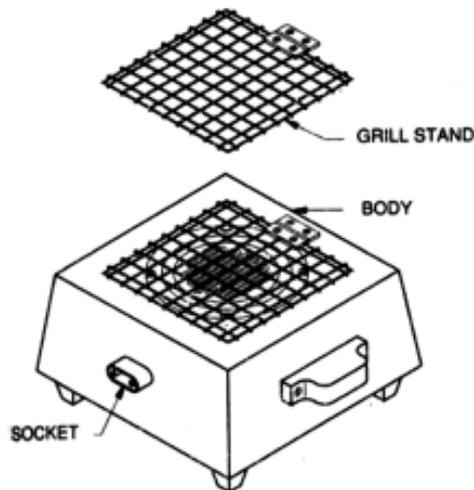
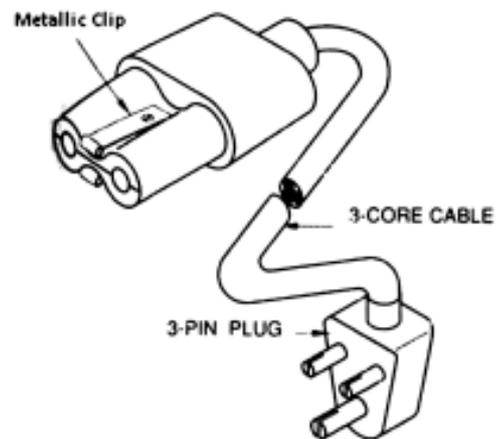

Fig. 8.4 - Grill Stand
Fig. 8.5 - Heater Socket
**Grill Stand :** It is made of chromium/nickel plated MS rods and hinged to the body. It supports the vessels kept on the heater and acts as a barrier between the exposed heater element and the vessel, as shown in Fig. 8.4. For safety, this grill should have electrical continuity to the body, and both must have earth connection. A properly earthed grill and body will enable the fuse to blow in case of accidental contact of live parts with them, thereby avoiding shock to the user.
**Heater Socket :** This is used for plugging the power supply appliance plug. The socket, shown in Fig. 8.4 has two male terminals, one for the phase and the other for the neutral. However, for safety, the heater body should be connected to the general mass of earth through the earth continuity conductor. For this, the appliance plug, shown in Fig. 8.5, has two spring loaded, metallic clips on either side of it which makes the contact with metallic enclosure of the socket when plugged. As rusting prevents proper contact of these clips with the socket, for safety, these clips and sockets are made of nickel plated brass.